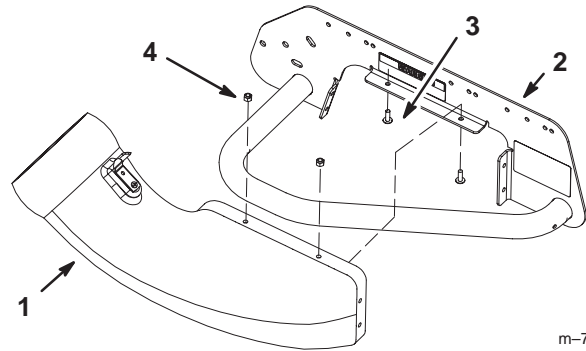

Figure 28
4. Install the boot to the new mounting plate with exiting hardware (Fig. 28).